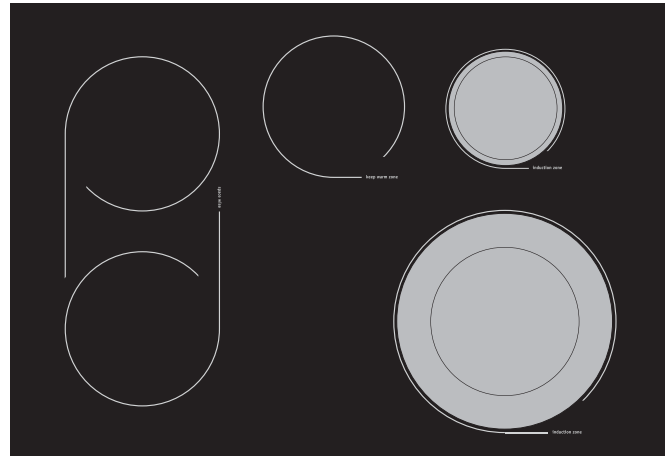
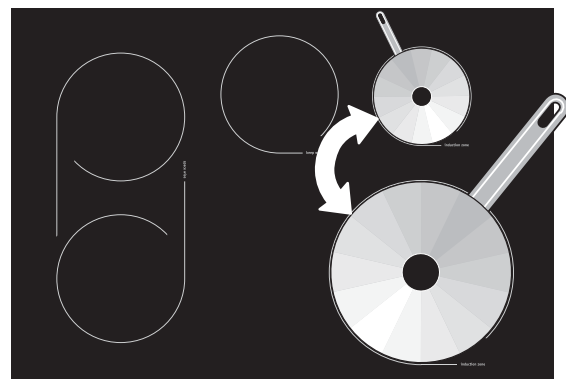

Figure 1
Figure 3
2. At the keep warmer zone controls position touch **▲** once to turn ON the power level for HI (Fig. 1) or **▼** to turn ON the power level for LO (Fig. 3).
3. Each touch **▲** or **▼** will increase or decrease the power levels. The keep warm zone has 5 power levels from HI (Fig. 1) through MED (Fig. 2) to LO (Fig. 3). The power level may be adjusted at any time while the keep warm zone is ON.